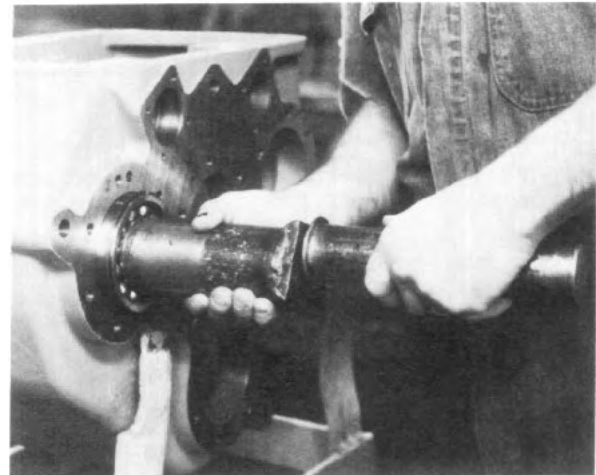

Fig. 12
3. Slip the front bearing (Item 8) over the end of the shaft and into the housing bore. The snap ring on the bearing should be on the out-board side of the bearing. Tap bearing into place (See Fig. 12).